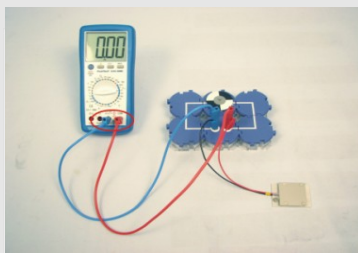

Figure 5
**5.** Place the thermogenerator on the table so that the larger plate is at the bottom. Connect the motor and the thermogenerator according to Figure 5.